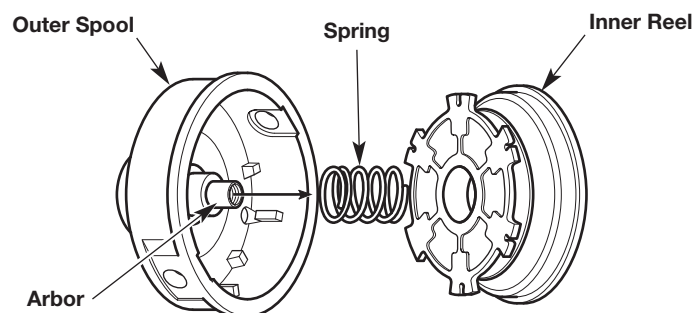

Fig. 15
NOTE: The outer spool (Fig. 15) will remain attached to the unit.
3. Remove the inner reel from the outer spool (Fig. 15).
4. Remove the spring from the inner reel (Fig. 15).